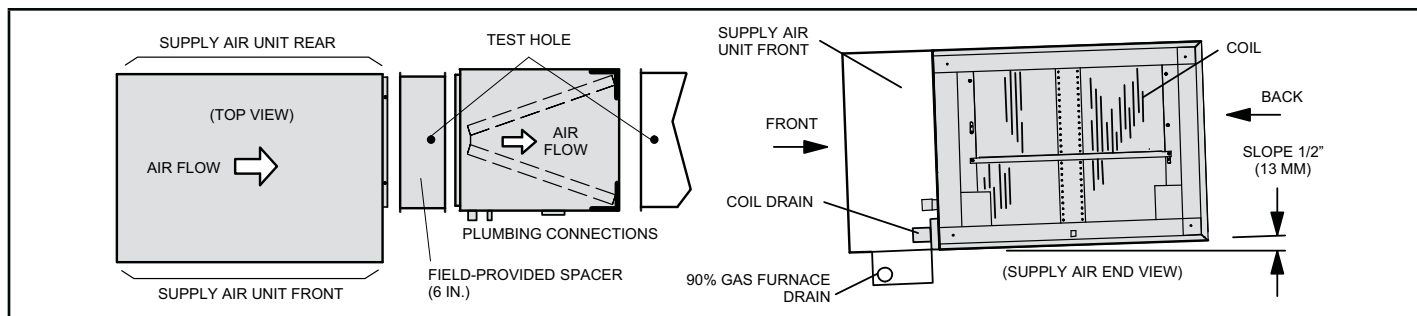

FIGURE 5. Right-Hand Air Discharge with Spacer
- 2 - **Right-Hand Air Discharge with Field-Provided Spacer** - The coil must have a 1/2" slope from the rear of the cabinet to the drain. Position the coil in the left-to-right configuration on the service access side of the furnace. Insert a field-provided spacer between the furnace and the coil. Use field-provided screws to secure the coil casing, spacer and the furnace together. The spacer should be long enough to allow room for proper installation (approximately 6 inches minimum). See figure 5.
Connect the properly-sized field-provided liquid line to the liquid line stub as shown in figure 5 using the following procedures: